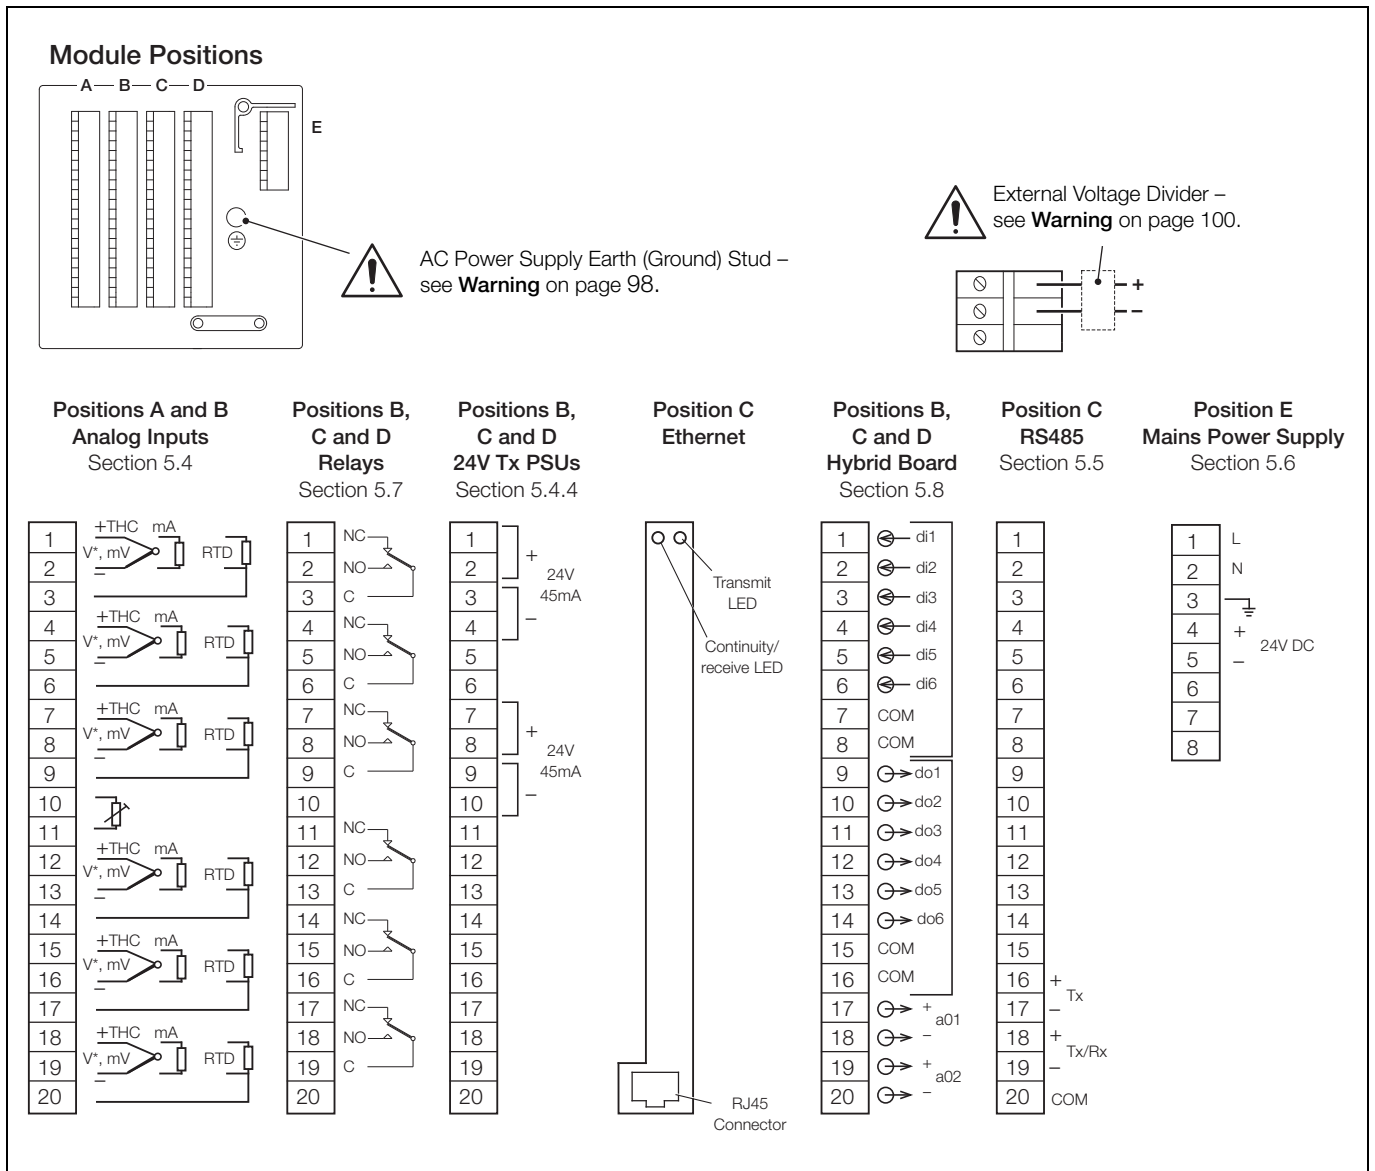

Fig. 5.5 Electrical Connections
Additionally, digital inputs from a hybrid module in position H (see Fig. 5.5) can be used to produce up to 32 Binary Encoded (BCD) digital states, e.g.:
### 5.3 Electrical Connections – Fig. 5.5
- It is strongly recommended that screened cable is used for signal inputs and relay connections. Connect the screen to the earth (ground stud) – see Fig. 5.5, page 99.
**Note.** Refer also to Fig. 5.5 for terminal numbers.